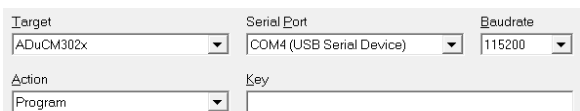

Figure 5. CrossCore Serial Flash Programmer Window
2. Ensure that the EV-COG-AD3029LZ is connected and select the following parameters (see Figure 5):
- Ensure that the EV-COG-AD3029LZ is connected and select the following parameters (see Figure 5):